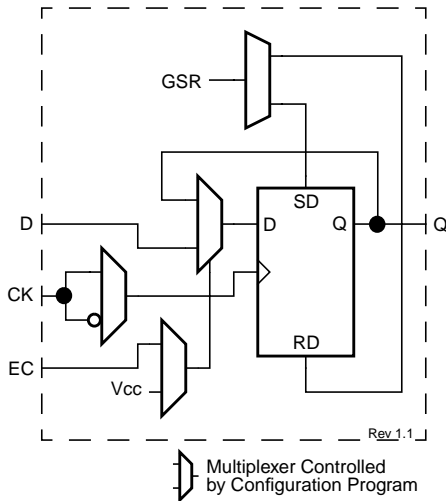

Figure 6: IOB Flip-Flop/Latch Functional Block Diagram
The input signal to the IOB can be configured to either go directly to the routing channels (via I1 and I2 in Figure 5) or to the input register. The input register can be programmed as either an edge-triggered flip-flop or a level-sensitive latch. The functionality of this register is shown in Table 3, and a simplified block diagram of the register can be seen in Figure 6.
The register choice is made by placing the appropriate library symbol. For example, IFD is the basic input flip-flop (rising edge triggered), and ILD is the basic input latch (transparent-High). Variations with inverted clocks are also available. The clock signal inverter is also shown in Figure 6 on the CK line.
As with the CLB registers, the GSR signal can be used to set or clear the input and output registers, depending on the value of the INIT attribute or property. The two flip-flops can be individually configured to set or clear on reset and after configuration. Other than the global GSR net, no user-controlled set/reset signal is available to the I/O flip-flops (see Figure 6). The choice of set or reset applies to both
The input and output flip-flops in each IOB have a common clock enable input (EC), which through configuration, can be activated individually (see EC signal in Figure 6) for the input or output flip-flop, or both. This clock enable operates exactly like the EC signal on the Spartan Series CLB. It cannot be inverted within the IOB.